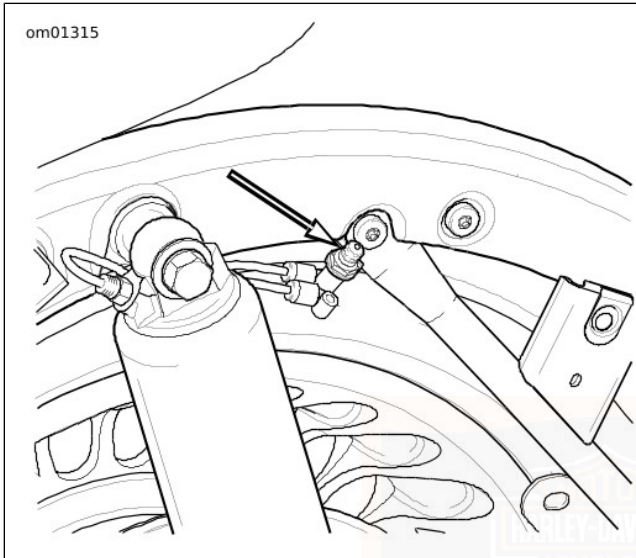

Figure 16. Rear Air Suspension Air Valve
2. See Figure 16. Remove the cap from the air valve located behind the shock absorber on the left side of the vehicle.